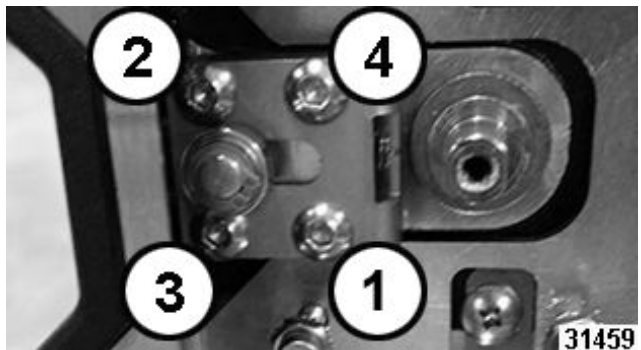

Fig. 16
2. Remove four allen screws (1-4 in Fig. 16) on plunger mechanism.
**NOTE:** When installing new plunger, tighten allen screws in crisscross pattern as numbered in Fig. 16 and torque to 24 in. lbs.